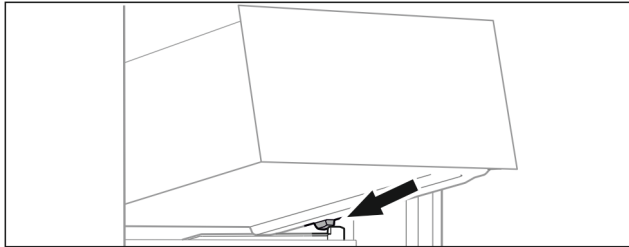

Fig. 139
- Place drawer at an angle behind the stoppers on the moulded rib. (see Fig. 139)